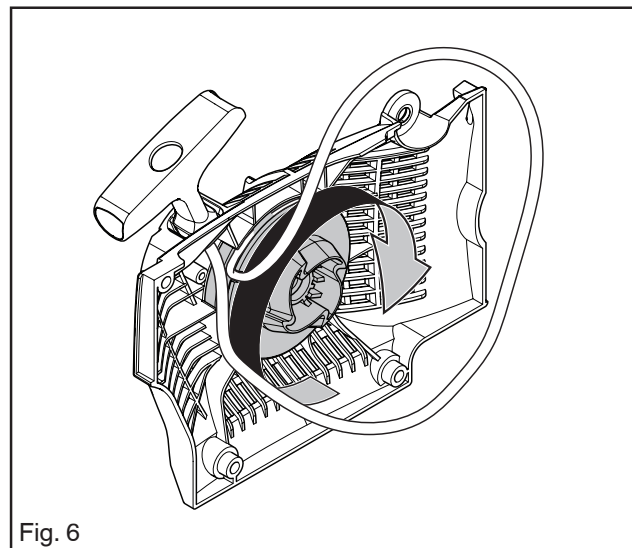

Fig. 6
7. Wind the cord onto the starter pulley and rotate the pulley clockwise until the cord is correctly tensioned. See fig. 6.